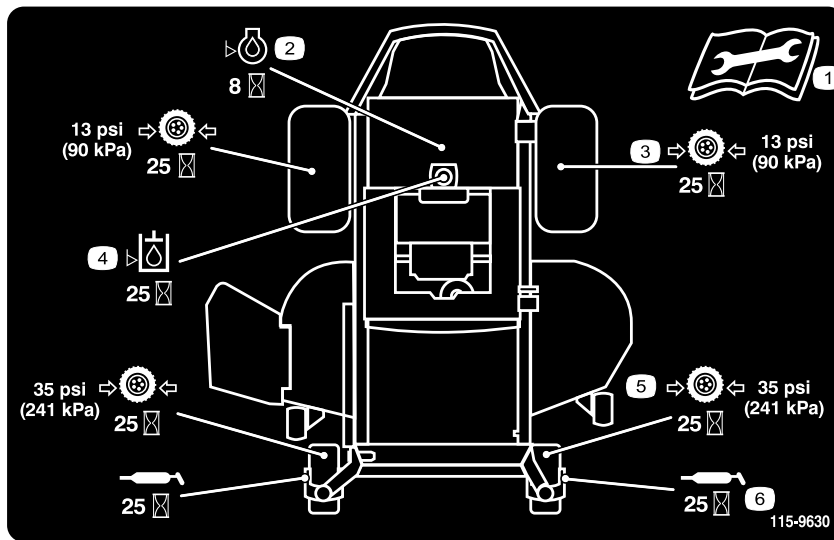

Figure 31
3. Clean the grease fittings (Figure 33 and Figure 31) with a rag. Make sure to scrape any paint off of the front of the fitting(s).
4. Connect a grease gun to each fitting (Figure 33 and Figure 31). Pump grease into the fittings until grease begins to ooze out of the bearings.